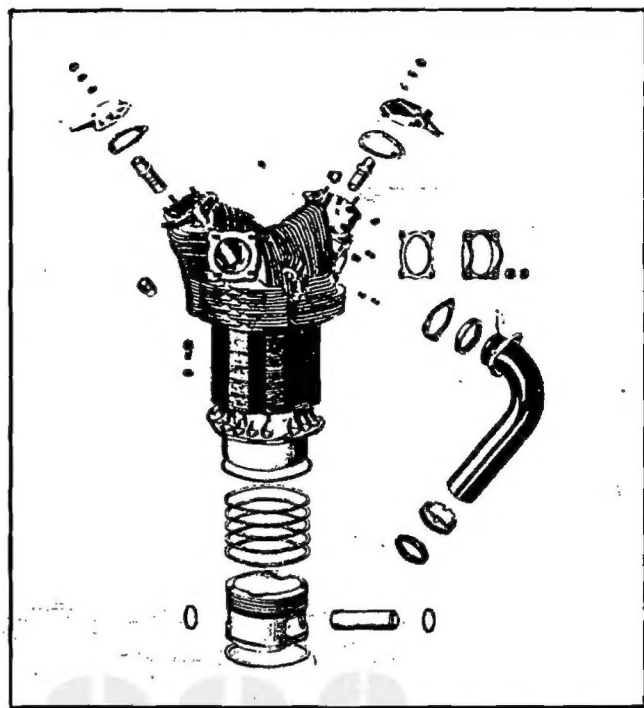

Figure 8—Cylinder, Intake Pipe, Piston, and Piston Rings
6. The cylinders are attached to the crankcase main sections by means of 20 cylinder hold-down cap screws in four groups of five each. The major parts of the cylinder assembly consist of the cylinder head which is shrunk and screwed on to the finned barrel, the piston and piston pin with spring-type retainers, and the piston rings. See figure 8. The poppet-type intake and exhaust valves, which are located in guides shrunk in the cylinder head, are operated by a mechanism consisting of rocker arms, push rods, and valve tappets.